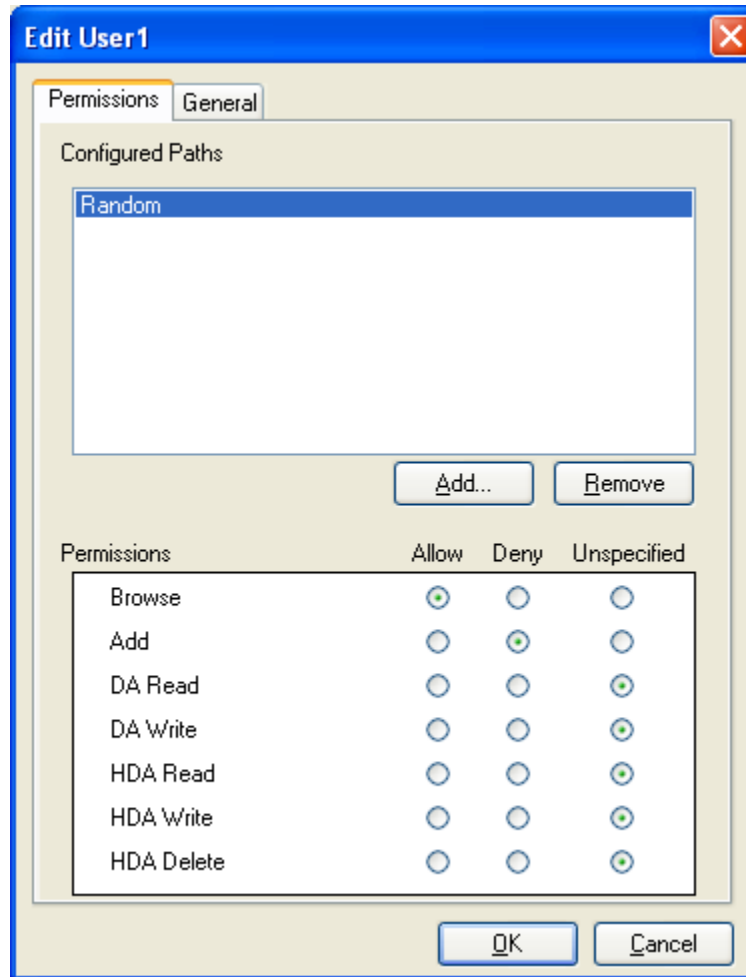

Figure 54 - Edit <Username>: Example
5. The selected path or item will be listed in the **Configured Paths** screen section of the **Edit User** window. Permissions can now be assigned, as in the example depicted in Figure 54.
- a. Check whether the permission type (**browse**, **add**, **read**, **write**, or **delete**) is specified (Figure 54). If the permission type is specified for the action being performed, a match is found and the permission (either allow or deny) is used.